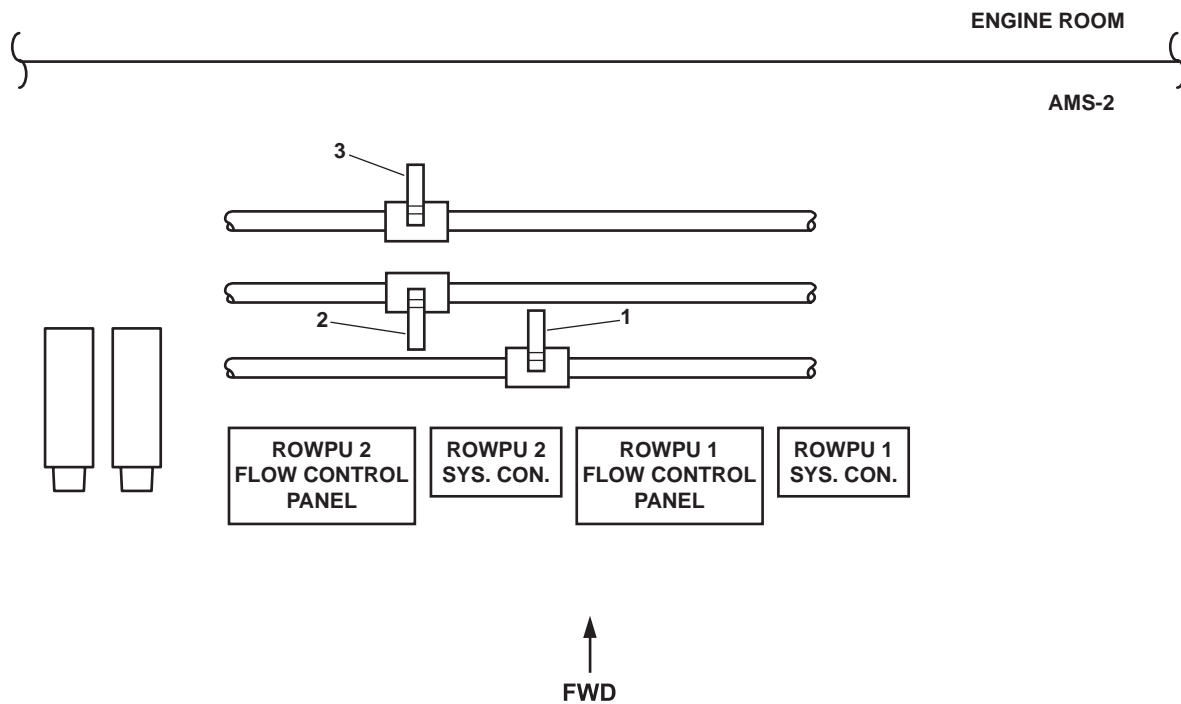

Figure 11. ROWPU System Valves as Viewed from Above
- d. RO-V-1-2 (figure 11, item 1), ROWPU 1 brine discharge valve.
- e. RO-V-2-2 (figure 11, item 2), ROWPU 2 brine discharge valve.
- f. RO-V-8 (figure 11, item 3), product water discharge valve.